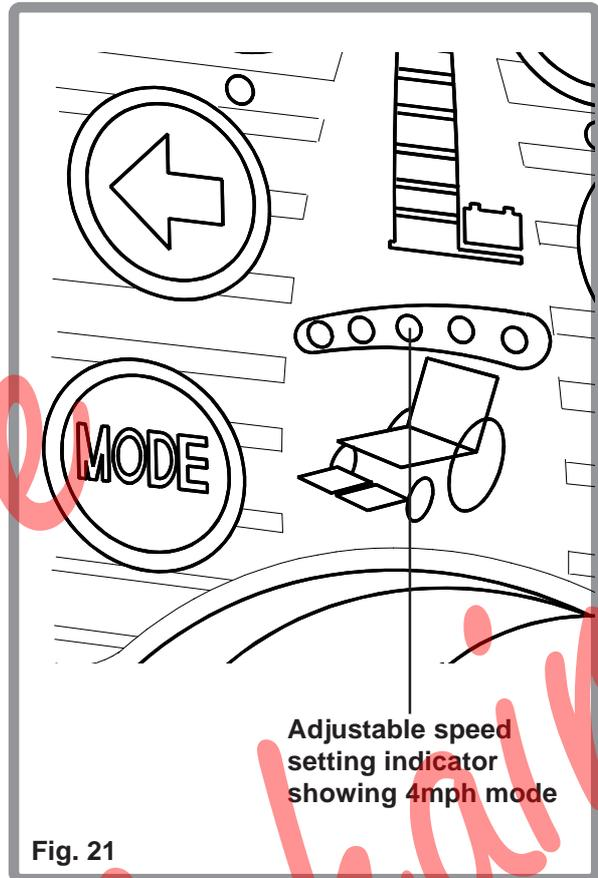

Fig. 21
1. Press the mode button until the speed settings indicator is flashing (Fig.21)